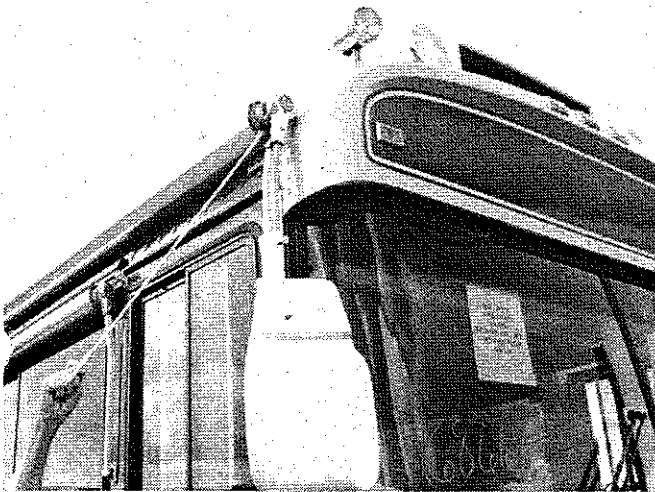

Figure 11-1.
1. Pull down on Z lock lever, as shown in **figure 11-1**, to permit awning to be unrolled.